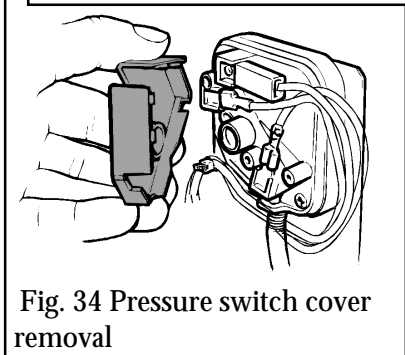

Fig. 34 Pressure switch cover removal
14.10.4 Remove the pressure switch cover (figure 34). Disconnect the three leads (Yellow, orange & white) from the air pressure switch.
14.11.3 Remove the pressure switch cover (figure 34). Disconnect the three leads (Yellow, orange & white) from the air pressure switch.